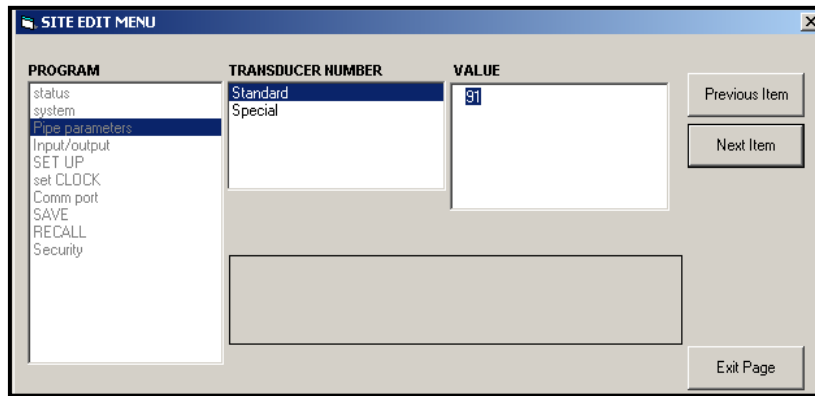

Figure 37: Pipe Parameters Option in Site Edit Menu
- a. Highlight and double-click on the desired option in the left pane. Figure 37 below shows the first entry (Transducer Number) in the Pipe parameters option. The title above the center pane lists the current entry, while the center pane displays the available selections for that entry.